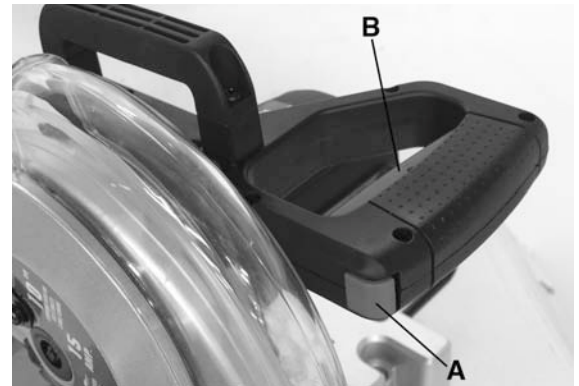

FIGURE 7
To turn the saw "ON" press in the safety button (A) Fig.7 and then pull the large trigger switch (B). To turn the saw "OFF" release trigger switch.